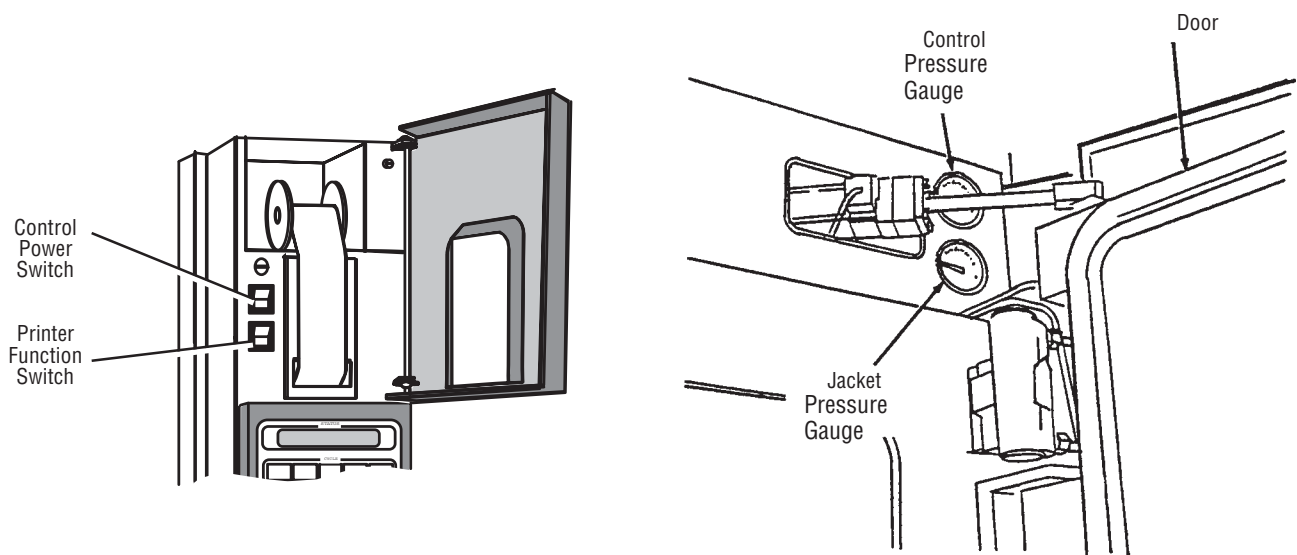

Figure 2-1. Control Locations
(See Figure 2-1)
- **Chamber Pressure/Vacuum Gauge** – This is located above the door behind the hydraulic piston (see Figure 2-1). When the door is closed, the gauge can be read by opening the door's hinged side cover.
- **Jacket Pressure Gauge** – This is located above the door behind the hydraulic piston (see Figure 2-1). When the door is closed, the gauge can be read by opening the door's hinged side cover.
Printer records all cycle data on 2-1/4 inch wide single ply thermal paper. Refer to Service and Maintenance procedures manual, P-150828-806, for paper ordering information and for paper changing procedure (see Figure 2-1).